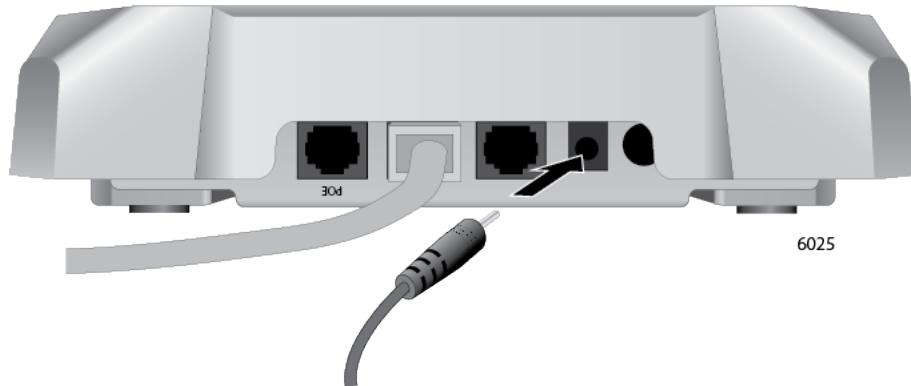

Figure 24. Connecting an AC Power Adapter to the Access Point
2. Plug the DC connector of the power adapter into the DC IN jack on the access point. Refer to Figure 24.